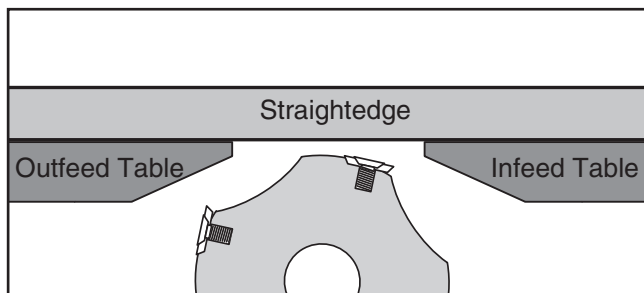

Figure 51. Infeed and outfeed tables set evenly.
2. Rotate the cutterhead so the inserts will not interfere, then place the straightedge halfway across the infeed table and halfway over the outfeed table and adjust the infeed table even with the outfeed table, as shown in **Figure 51**.